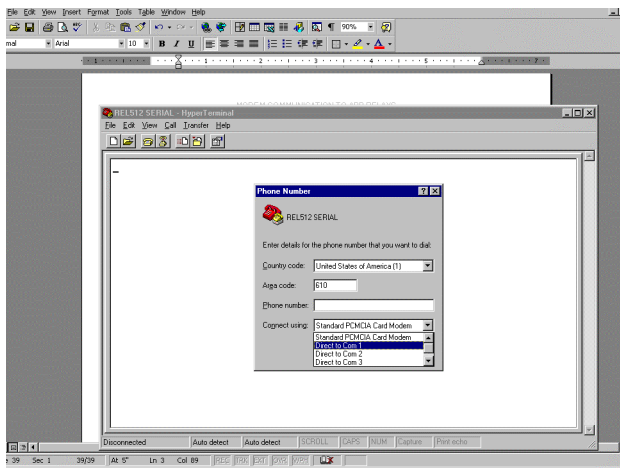

Figure 44 – Com Port Configuration For Attachment Of Hyperterminal Session
4. The COM properties for the modem must be selected for this example to those selected for the REL 512. In this case the same settings configured for the REL 512 in STEP 3 are selected for the interface. Notice that the settings are selected in Figure 44 for those configured in STEP 3. Notice for this example, hardware handshaking is enabled for RTS/CTS configuration.